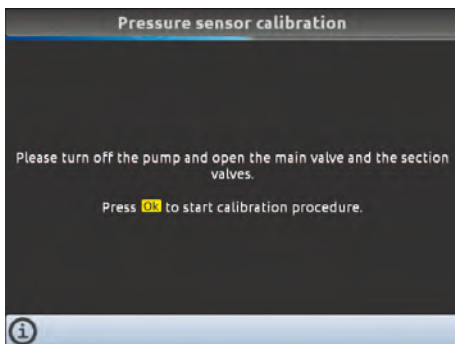

Fig. 135
- 2 The message in Fig. 135 is displayed: follow the instructions, then start the procedure by pressing **OK**.